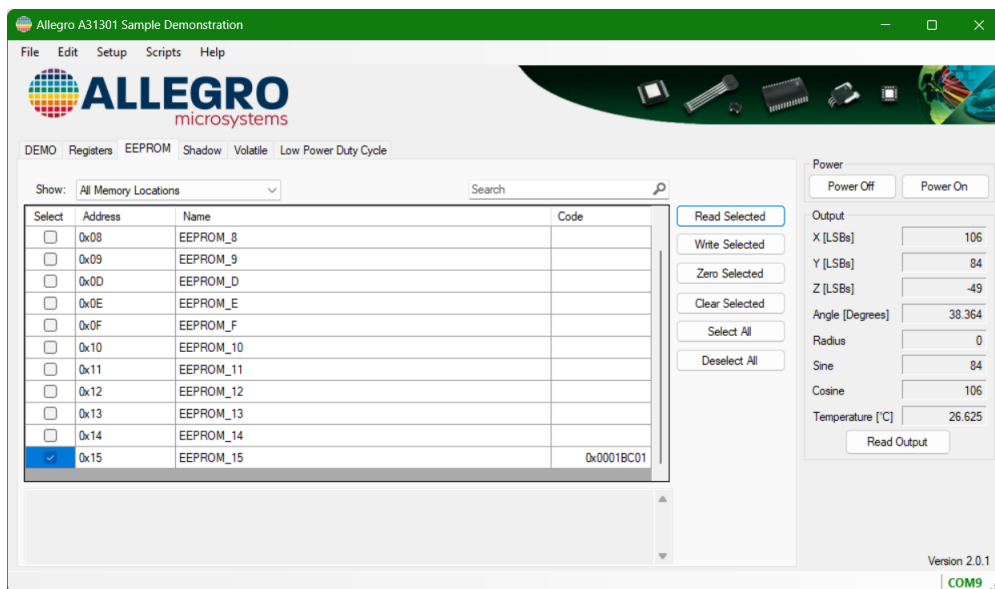

Figure 6: Reading a Memory Location
- Click on Read Selected. The window should appear as it does in Figure 6. The value of SPARE_15 is at bits 2 to 7 of location 0x15.